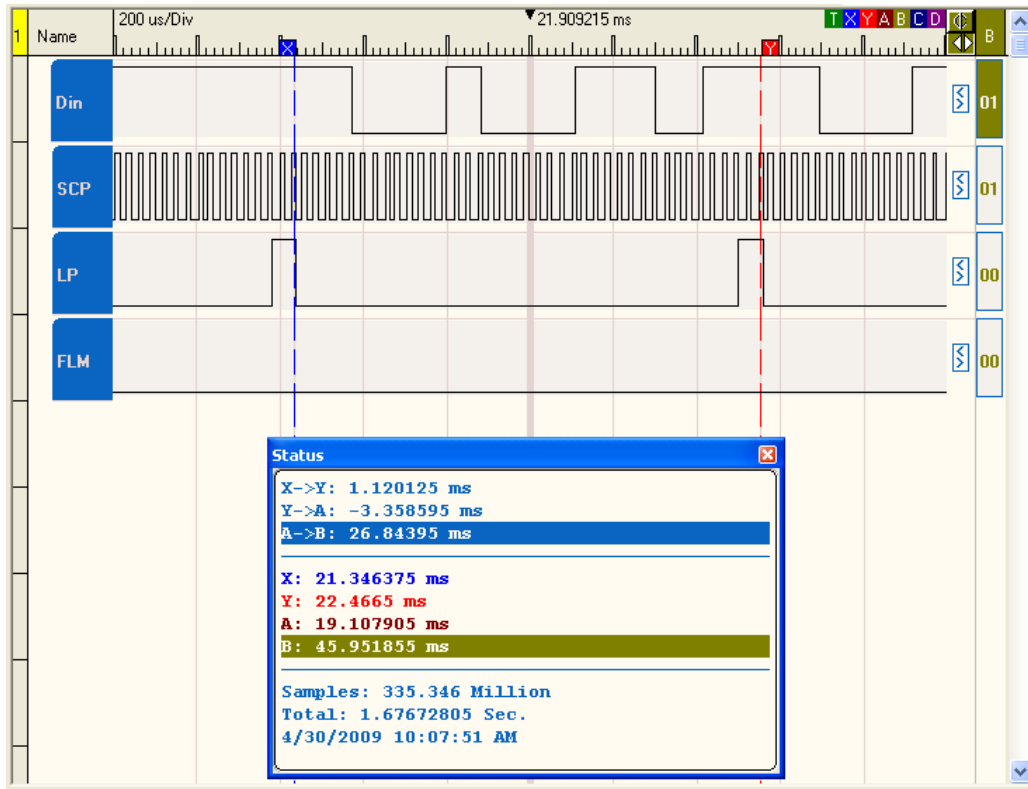

Figure 1. LP-to-LP Timing Diagram
Each LCD row requires that 40 data bits be serially clocked into the data-in (Din) pin on the falling edge of the serial clock pulse (SCP). The LCD only displays the last 36 data bits; the first 4 data bits are ignored. After a row of data is received, the latch pulse (LP) pin is pulsed to load the data. The LP-to-LP timing diagram in Figure 1 shows a row of data bits latched by an LP pulse.